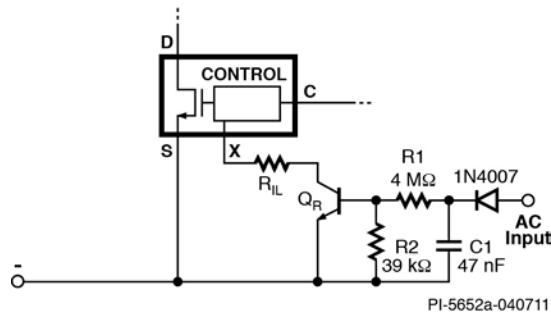

Figure 3 – Fast AC Reset Circuit.
The TOPSwitch-JX family has a fast AC reset function which can be configured on the EXTERNAL CURRENT LIMIT (X) pin (as shown in Figure 3). Should the device stop switching due to a latching OVP fault condition, the circuit connected to the X pin will force I_X to exceed $I_{X(TH)} = -27 \mu\text{A}$ (typical) and reset the latch when the AC input is disconnected or falls below a set threshold value.
In Figure 3, R1, R2 and C1 set the time after AC is removed before the latch is reset. A higher gain BJT Q_R is desirable to allow a higher resistance value for R1 and lower capacitance value for C1, and thus minimize the circuit dissipation.